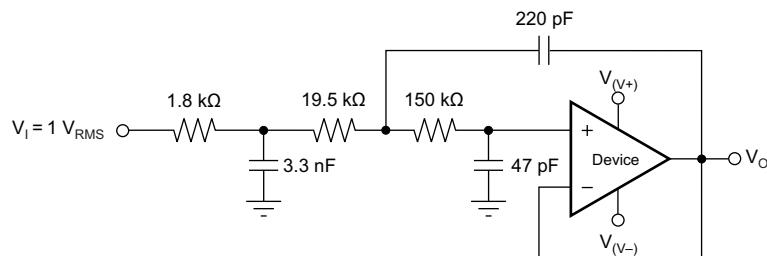

Figure 36. OPA2356-EP Configured as a Three-Pole, 20-kHz, Sallen-Key Filter
3. Using a noninverting filter topology, such as the Sallen-Key (see Figure 36).